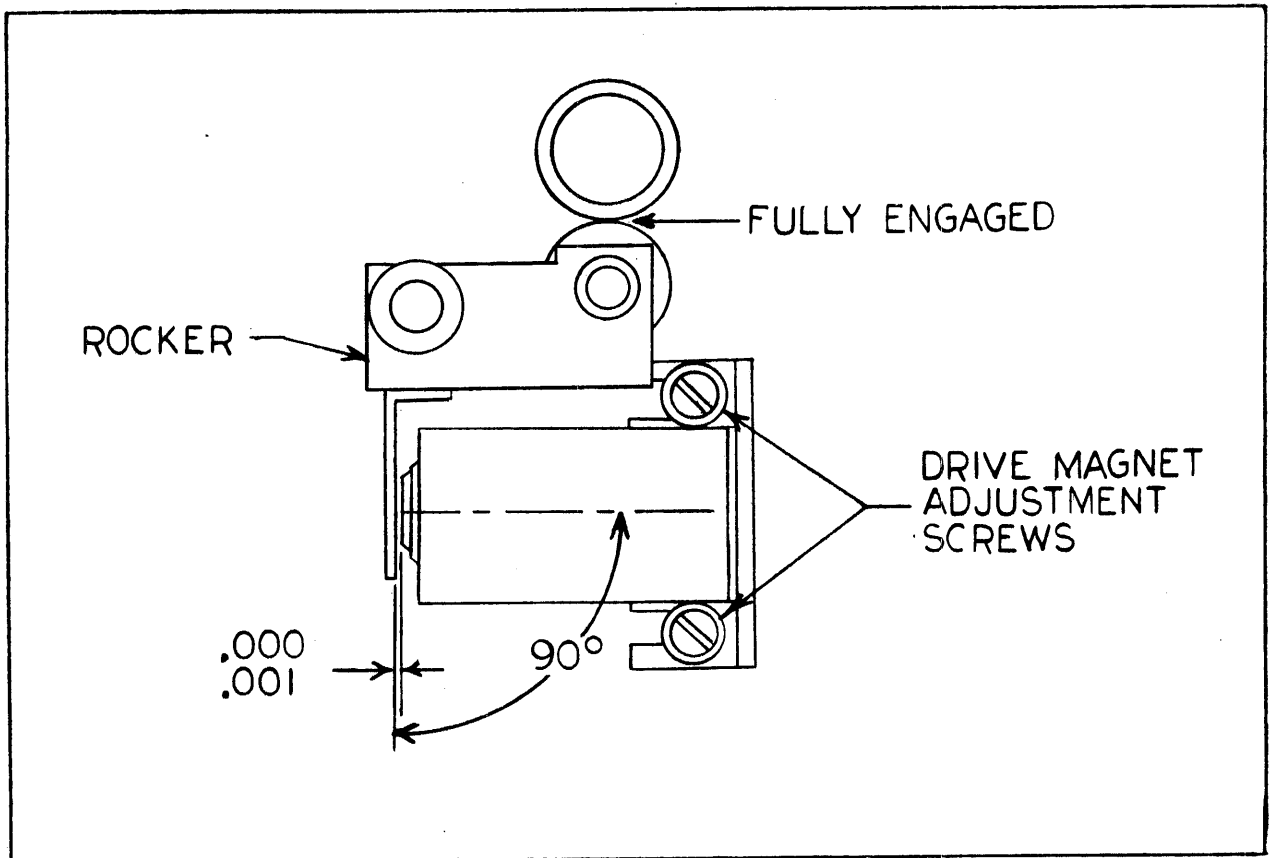

Figure 4-2
Adjustment of the drive magnet air gap is made with the rocker and magnet as shown in Figure 4-2. The adjustment is performed as follows:
- c. Loosen the magnet coil bracket screws and move the magnet until the rocker and magnet appear as shown in Figure 4-2.